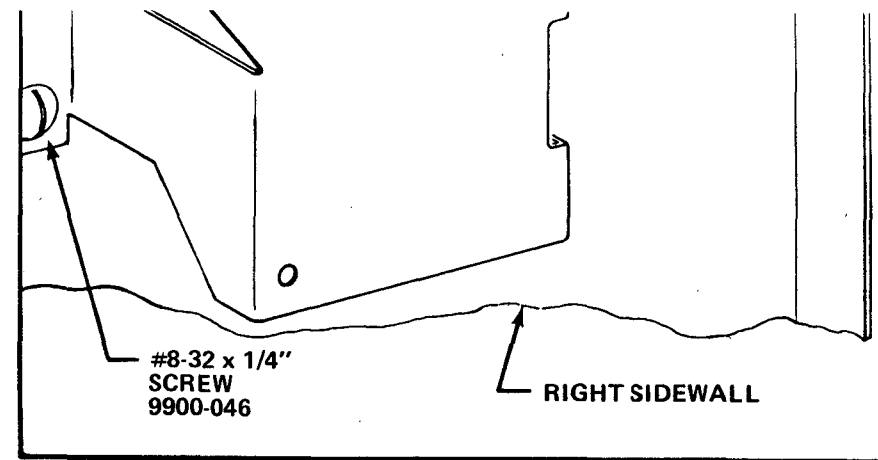

FIGURE 1.
6. Install replacement Counter And Bridge Assembly in the position the Bridge removed in step 5 was in. See Figure 1.